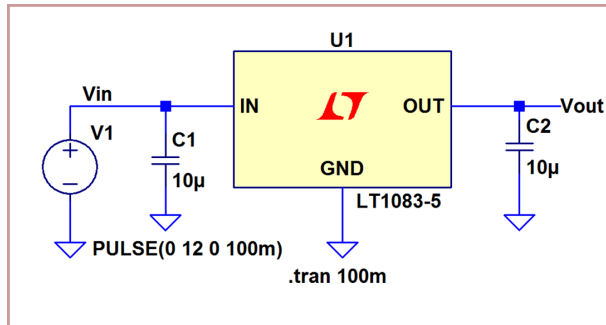

Figure 10. Minimum input voltage and drop-out voltage simulation.
1. Simulate the schematic shown in Fig. 10. What is the minimum input voltage for the regulator to output 5V? What is the drop-out voltage? **(Schematic, Plot, Answers)**